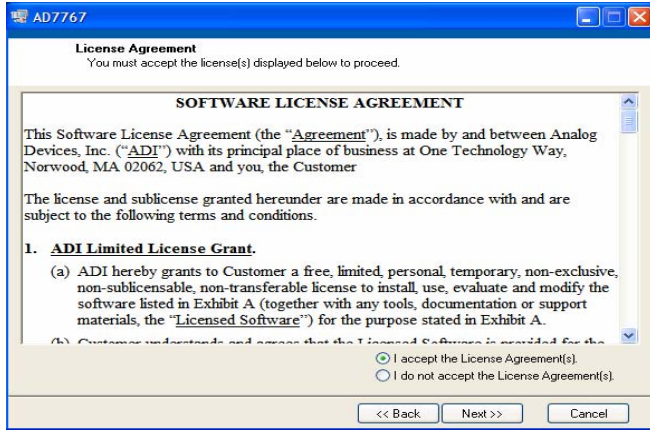

Figure 4. AD7767/-1/-2 Evaluation software install 3.
3) Accept the license agreement by selecting the correct option and clicking "Next" as shown in Figure 4.
5) On completion of the installation, the window as shown in figure 4 is displayed.